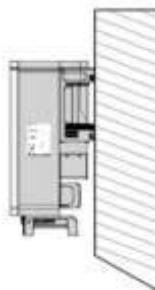

Fig. 4-2 Wall mounting
- The maximum load bearing capacity  $\geq 4$  times of inverter weight (Fig. 4-2).